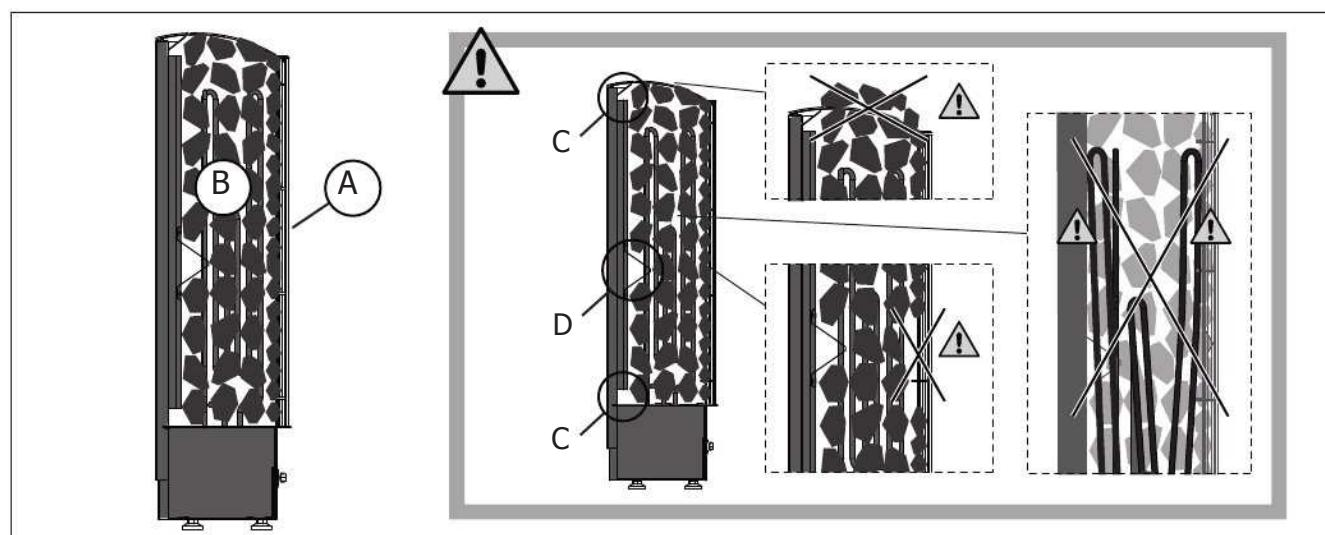

Figure 1. *Piling of the sauna stones*
| 1.1. Piling of the Sauna Stones (figure 1) | 3 |
1.1. Piling of the Sauna Stones (figure 1)
- Fig. 1, C: Do not block the lower or upper end of the air duct.
- Fig. 1, D: Do not put stones inside the bracket.